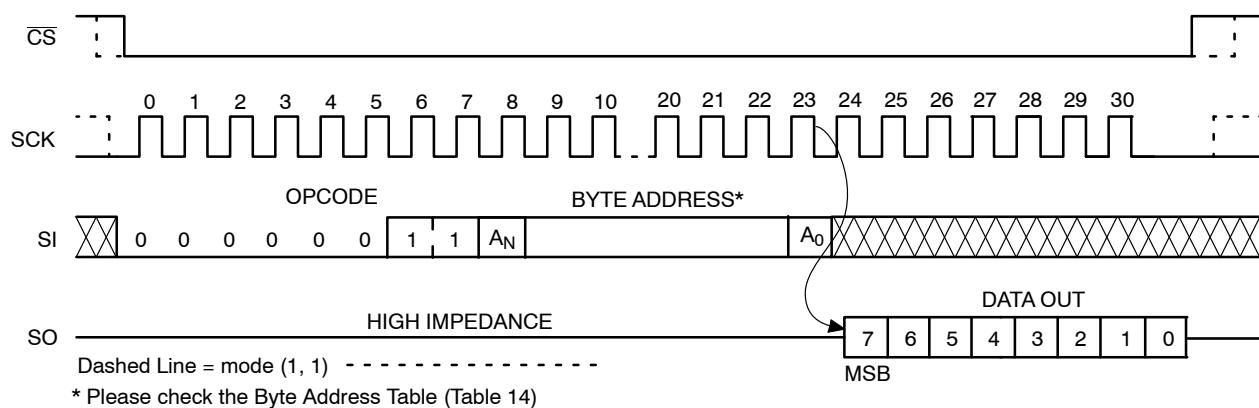

Figure 9. READ Timing
After receiving the last address bit, the CAT25256 will respond by shifting out data on the SO pin (as shown in Figure 9). Sequentially stored data can be read out by simply continuing to run the clock. The internal address pointer is automatically incremented to the next higher address as data is shifted out. After reaching the highest memory address, the address counter “rolls over” to the lowest memory address, and the read cycle can be continued indefinitely. The read operation is terminated by taking CS high.
Reading the additional 64-byte Identification Page (IP) is achieved using the same Read command sequence as used for Read from main memory array (Figure 9). **The IPL bit from the Status Register must be set (IPL = 1) before attempting to read from the IP.** The [A5:A0] are the address significant bits that point to the data byte shifted out on the SO pin. If the CS continues to be held low, the internal